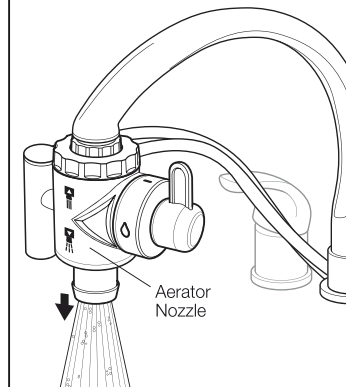

Figure 4.3 – Aerator Nozzle Pulled Down
- Pull nozzle down for spray (see Figure 4.3).